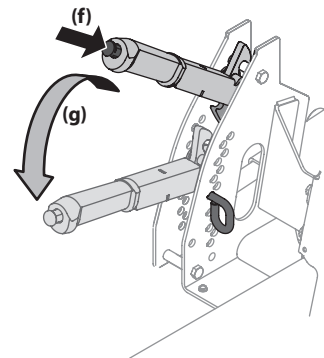

Figure 3-4
3. Depress the button at the end of the handle lift lever (f) and raise it slightly to unhook it from the upper spacer on the deck height index bracket and carefully lower into the desired position (g). See Figure 3-4.